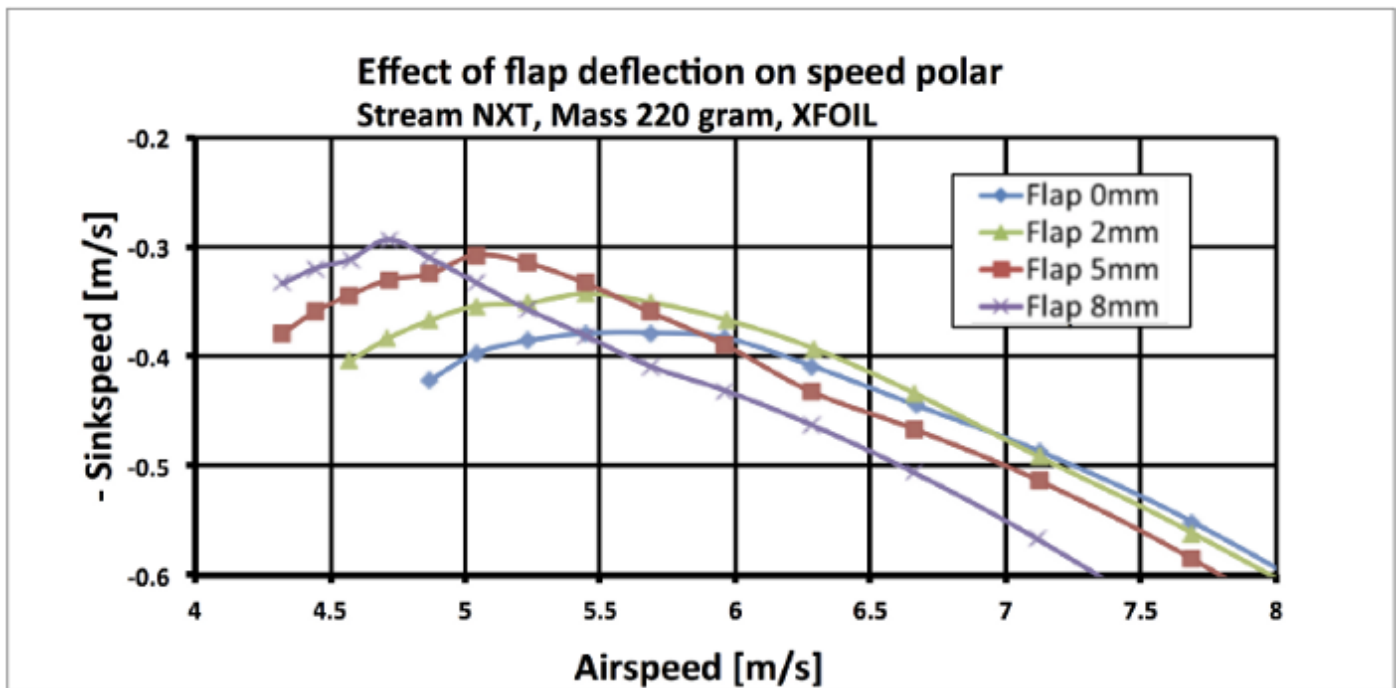
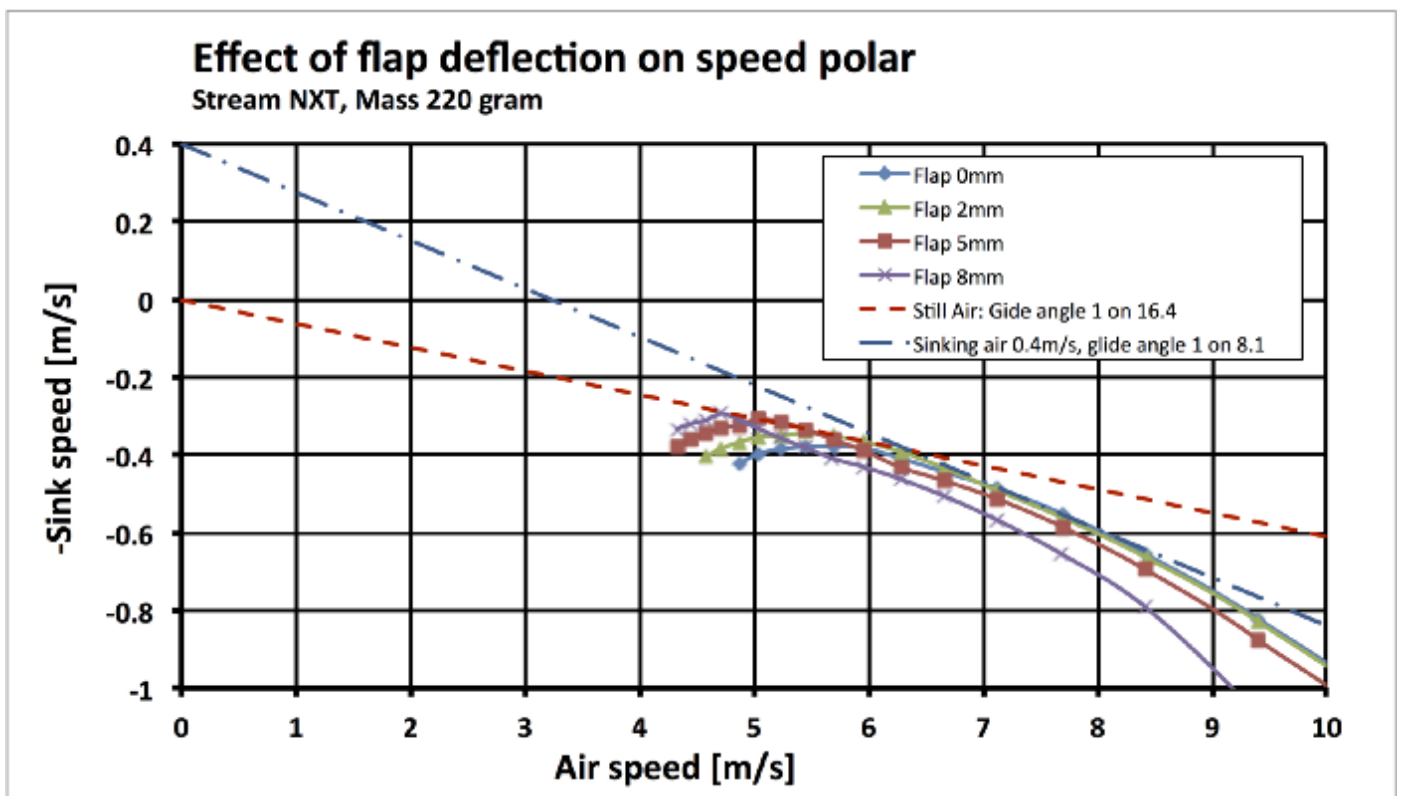

Figure 10: Effect of flap deflection on the speed polar.
Figure 11: Effect of Flap deflection on speed polar with glide angle indication
**Performance calculations:** Using the data described above one can calculate the sink speed as a function of the airspeed. This is shown in Figures 10 through 12.
**Minimum sink speed and selection of the correct flap angle:** In Figure 10 you can see that the calculated minimum sink speed of approximately 0.30 m/s is found with a flap deflection of 8 mm at a flying speed of 4.7 m/s. With flap at 0 mm, the launch position, it is 0.38 m/s, more than 25% worse. The measured sink speed at the beginning of this article was between 0.33 and 0.38 m/s, slightly higher, but it was also not perfectly still air. We fly in quiet conditions usually with flap at 5 mm. While turning in the thermals we give some elevator deflection with the result that the flap deflection is also increased, to about 8 mm. The optimal flight speed is now even lower so you can fly smaller turns. The flap deflection of 2 mm is indicated by the manufacturer for cruise flight. In Figure 10 you can see that it is indeed a good choice for finding areas with thermals faster. At slightly increased air speeds between 5.5 m/s and 7.0 m/s, this gives the least loss of height. If you want to move more quickly to another area, then flap deflection of 0 mm is even better. This result teaches us a lot about selecting the correct flap deflection.
**Glide angle and what to do in sinking areas and headwind:** The tangent line from the origin to the polar (red dotted line) in Figure 11 gives the point with the best glide angle. This is the same as Figure 10, but now on a slightly different scale. At between 5 and 6 m/s air speed, the glide angle is optimal with a flap deflection of 5 mm. If you have to cross a sink area, you should increase the airspeed significantly to, for instance, 8 m/s and select flap of 0 mm. That shows the blue stripe-dot line in Figure 11. The same applies in case of headwind, even then you have the best glide angle at increased air speed and corresponding flap position. The blue dash-dot line shows this for a 3.3 m/s headwind.